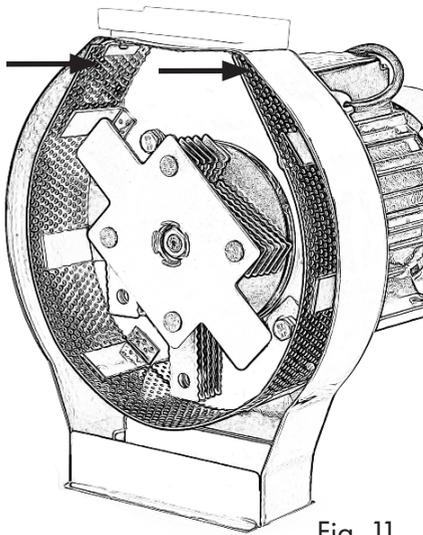

Fig. 11
4. **Insert a new strainer:** Select a strainer of your choice and install it as shown in Figure 11.